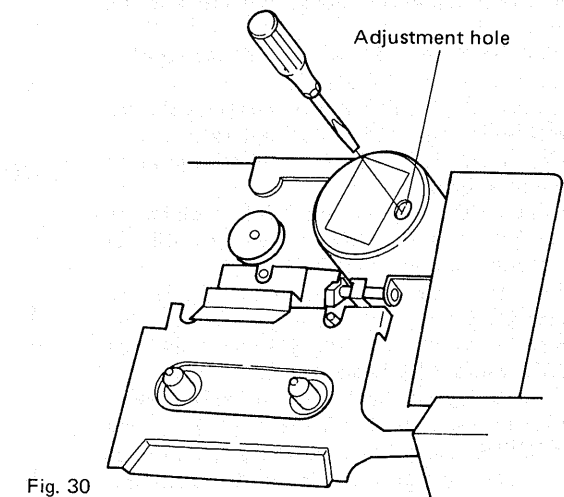

Fig. 30
2. Adjust screw (2) so that the gap G between (2) and (1) is 0.4mm (± 0.1 mm).
6.7 TAPE SPEED (Fig. 30)
Insert a small screwdriver into the adjustment hole, shown in Fig. 30, and adjust the variable resistor.